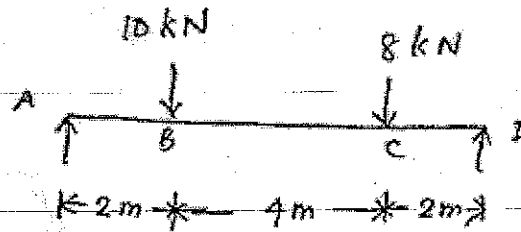

Figure: 3
6. Determine the slope at the supports and maximum deflection for the beam shown in figure 3 below. Use Macaulays method. $E=2 \times 10^5 \text{ N/mm}^2$ and $I=20 \times 10^6 \text{ mm}^4$. [15]